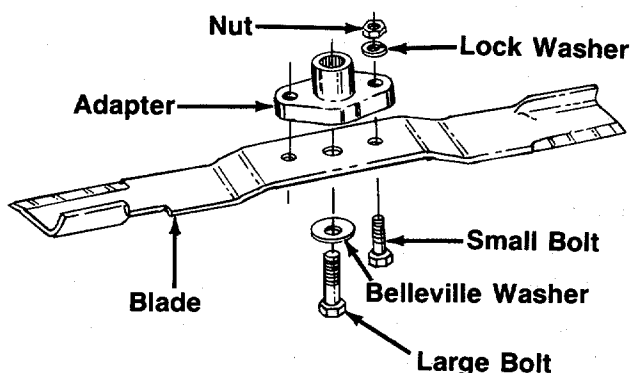

FIGURE 18.
1. Remove the large bolt and belleville washer which hold the blade and adapter to the blade spindle. See figure 18.